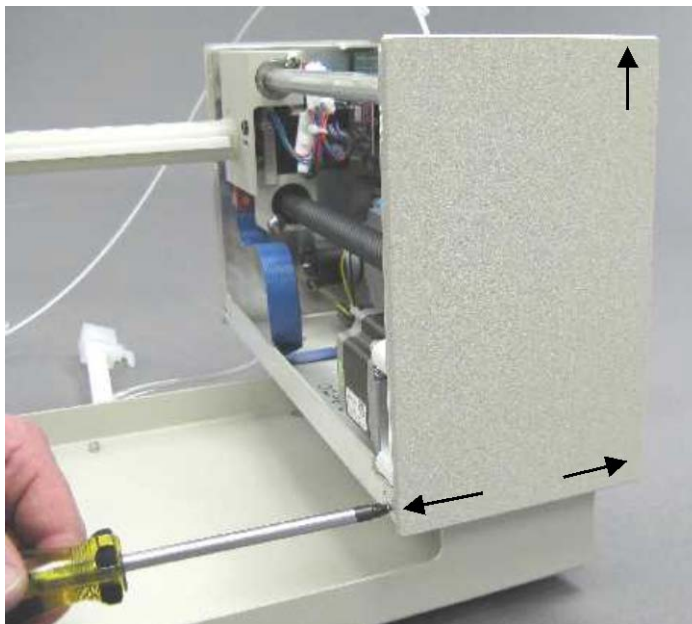

Figure 1-30 Right end plate with arrows indicating screw locations (ASX-260).
3. **Remove the three mounting screws for the right end plate (Figure 1-30). Two are counter sunk and one is a round head. The round head screw is used on the back of the chassis when re-assembled.**